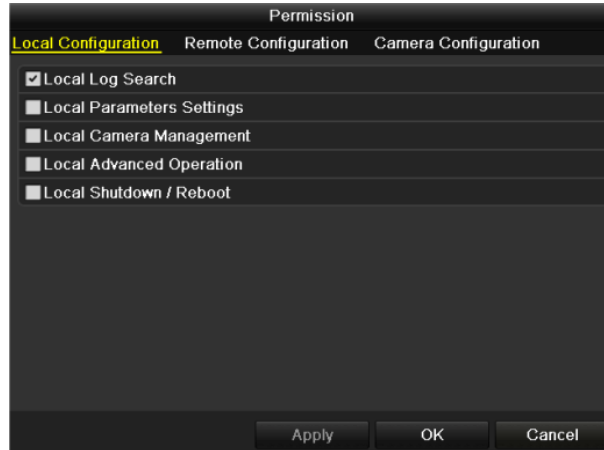

Figure 16-8 User Permission Settings Interface
Step 5 Select the user from the list and then click the button to enter the Permission settings interface, as shown in Figure 16-8.